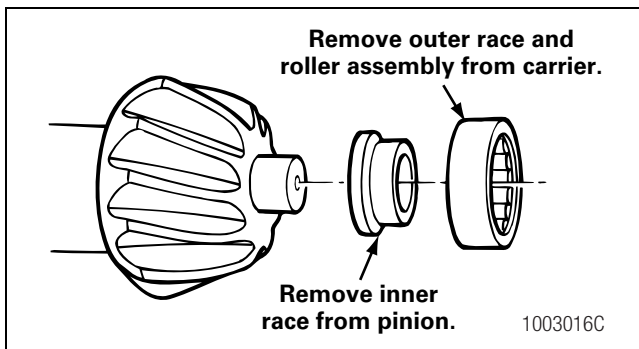

Figure 3.34
10. If the spigot bearings are a two-piece assembly, remove the inner race from the pinion with a bearing puller. Remove the outer race and roller assembly from the carrier with a drift or a press. Figure 3.34.